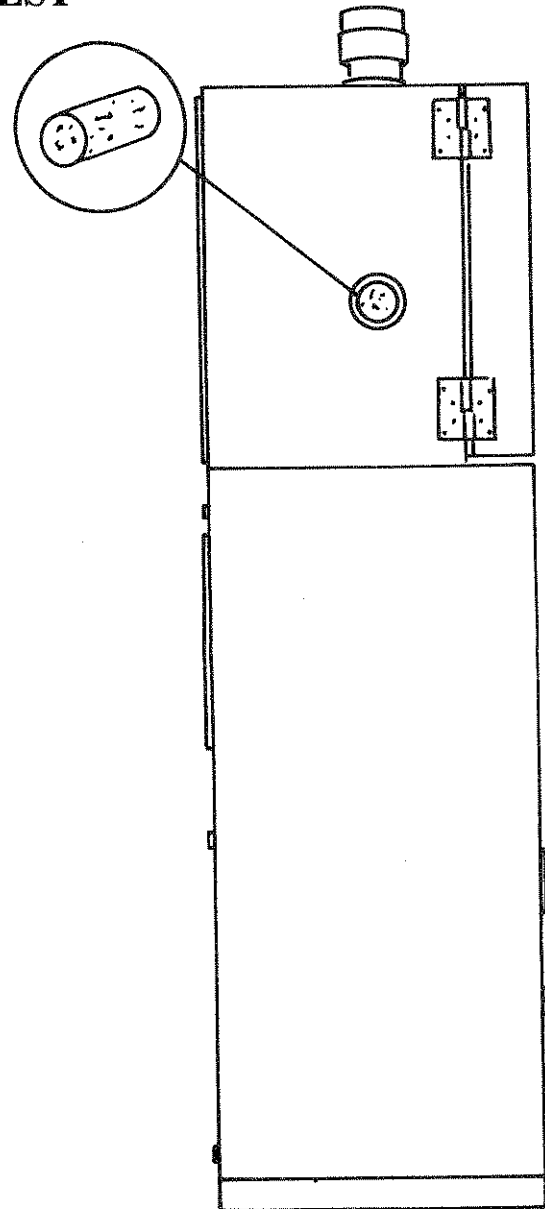

FIGURE B3
- b. Remove the port plug. See Figure B3.